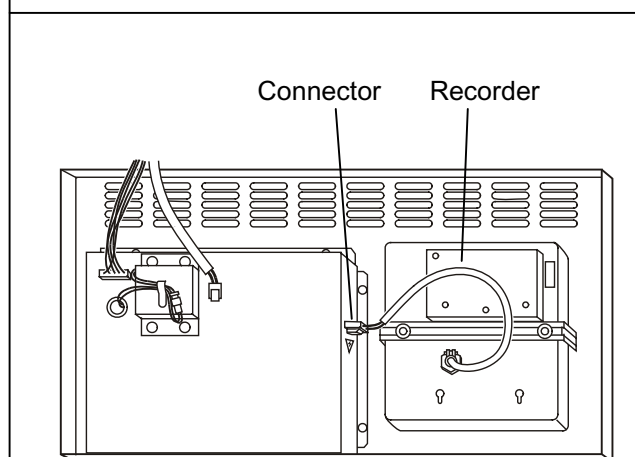

Fig. 2
2. As shown in Fig. 2, install the recorder to the front panel by using the fixture enclosed with the recorder and the mounting plate (MDF-S3085).
Before fixing the temperature recorder, connect the recorder connector with the connector on the right back side of the control panel (Fig. 2)